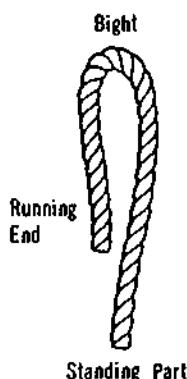

Figure 2-11. Three Parts of Rope
b) When making knots and hitches, the rope is described as having three parts, as depicted in Figure 2-11.